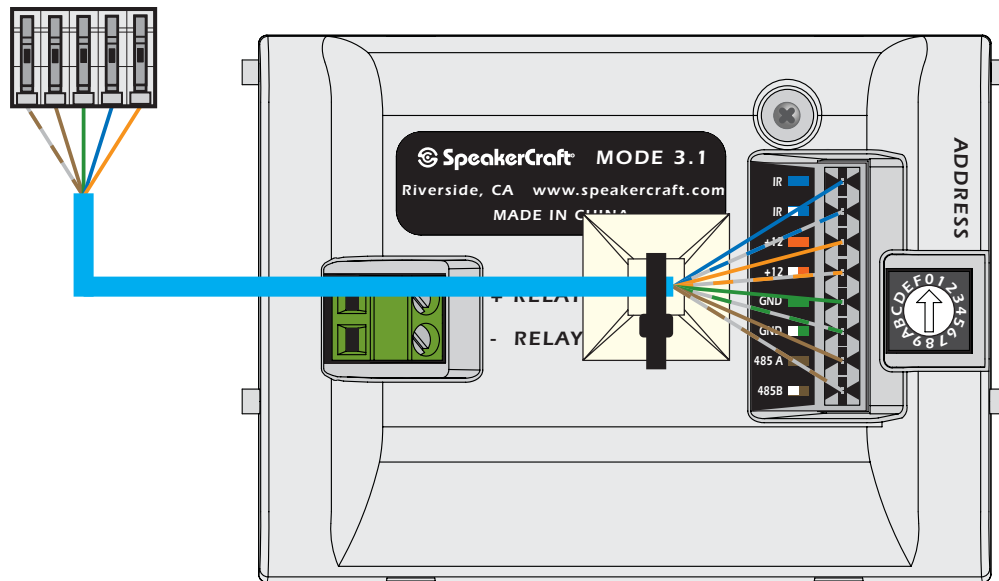

Figure 15
3. Prior to installing the keypad, attach the included **Wire Retainer** to the back of the MODE 3.1 as shown in **Figure 15**. Remove the adhesive backing from the wire retainer and attach with the wire tie oriented vertically as shown, with the retainer lock at the bottom. Pull the retainer over the wire and down through the lock as shown. This will help prevent the wires from becoming disconnected during installation.